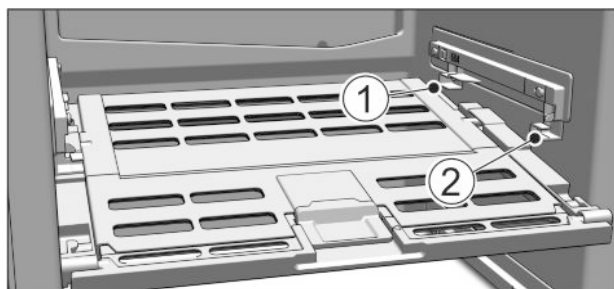

Fig. 62
- ▶ Replacing the Fruit & Vegetable safe cover: Guide the ridges on the cover into the rear brackets Fig. 62 (1) and click it into the front bracket Fig. 62 (2).